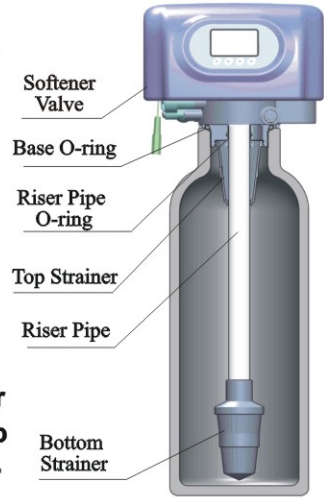

Figure1-1
- ①The filter or softener should be located close to drain.
- ②Ensure the unit is installed in enough space for operating and maintenance.
- ③Brine tank need to be close to softener.
- ④The unit should be kept away from the heater, and not be exposed outdoor. Sunshine or rain will cause the system damage.
- ⑤Avoid to install the system in circumstance of Acid/Alkaline, magnetic or strong vibration, because above factors will cause the system disorder.
- ⑥Do not install the filter or softener, drain pipeline in circumstance which temperature may drop below 5°C, or above 50°C.
- ⑦One place is recommended to install the system which cause the minimum loss in case of water leaking.
① Install control valve
a. As the Figure 1-1 shows, select the riser pipe with 26.7mm OD, glue the riser pipe to the bottom strainer and put it into the resin tank, cut off the exceeding tube out of tank top opening. Plug the riser tube in case of mineral entering.